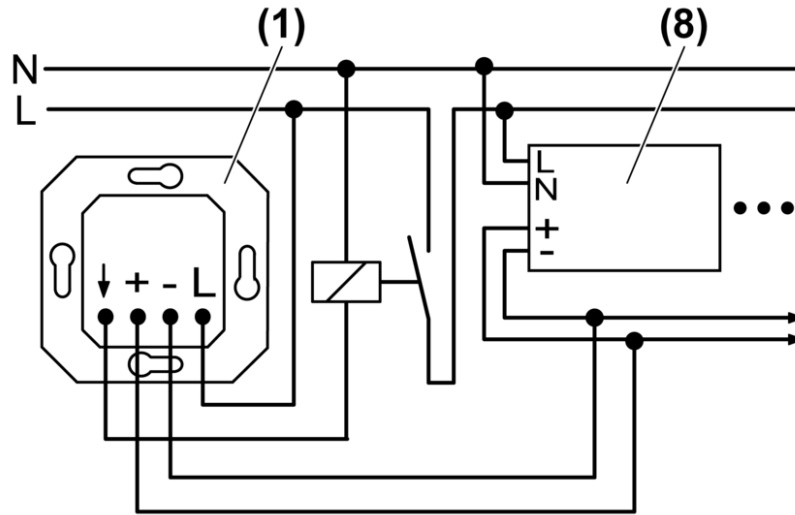
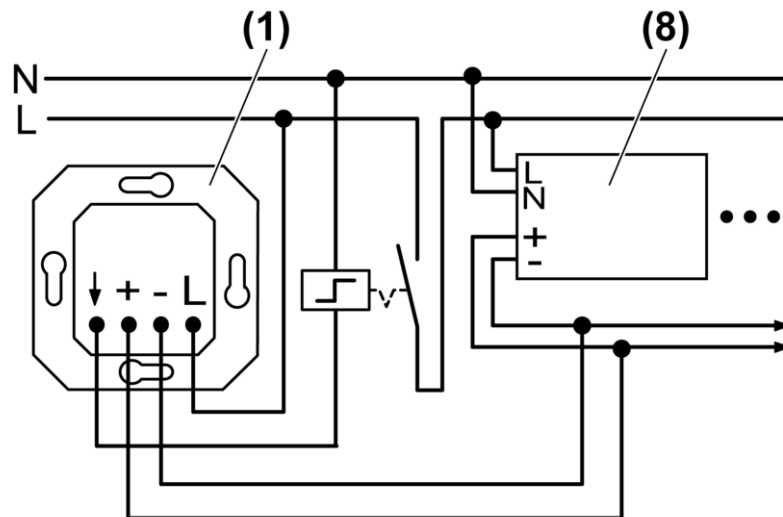

Figure 3: Connection diagram for potentiometer with switching function and contactor
Figure 4: Connection diagram for potentiometer with push-button function
- Connect electronic potentiometer with push-button function according to connection diagram (Figure 3) or (Figure 4).